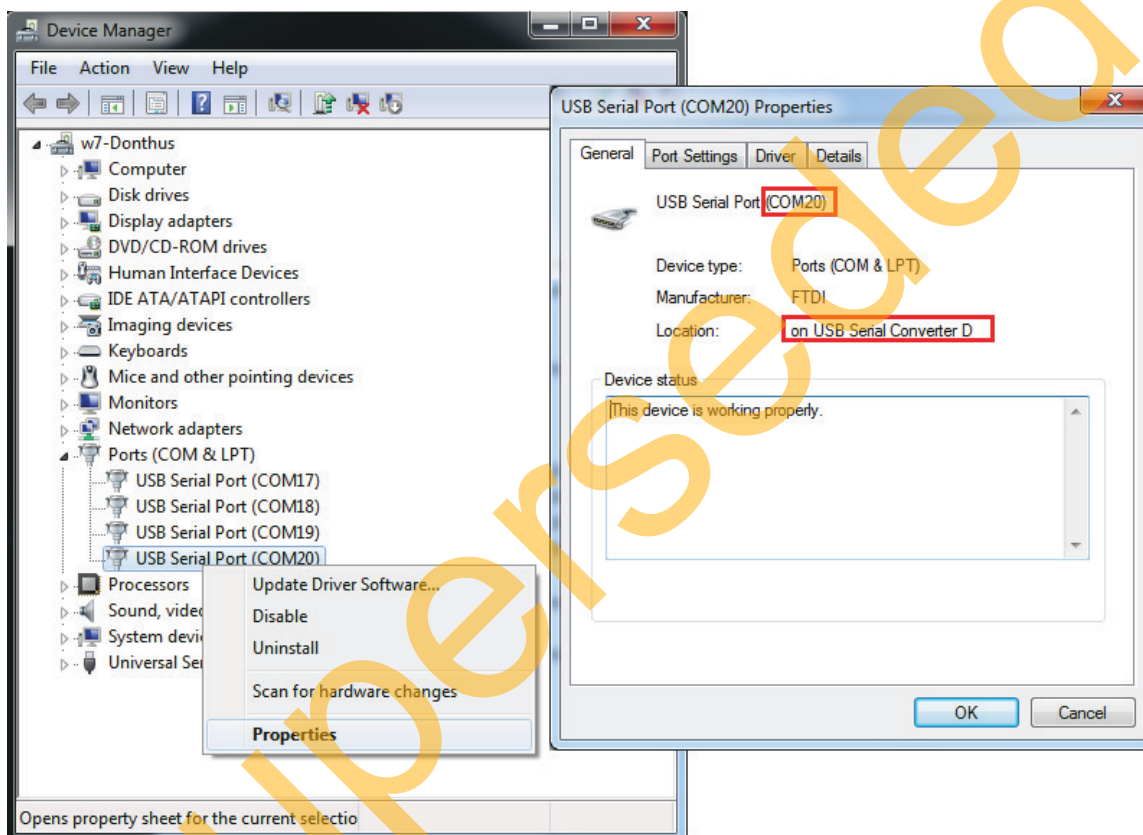

Figure 15 • Device Manager window showing the USB Serial Port
2. Make sure that the *USB to UART bridge drivers* are automatically detected. Of the four COM ports, select the one with **Location** as *on USD Serial Converter D*. Figure 15 shows an example **Device Manager** window that has the **USB Serial Port** and its properties showing the port number and location. COM port number is required to run the demo design, so make a note of it.